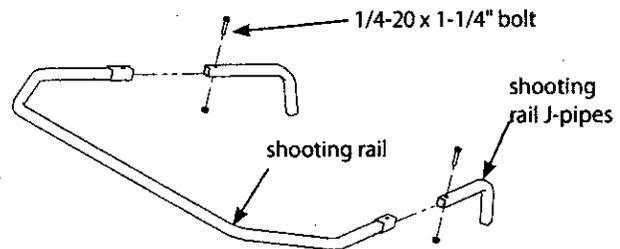

Figure 8
- Insert the shooting rail J-pipes (410113) into the shooting rail front (410065) and secure together using (2) provided 1/4-20 x 1-1/4" bolts and locknuts. **SEE FIGURE 8.**